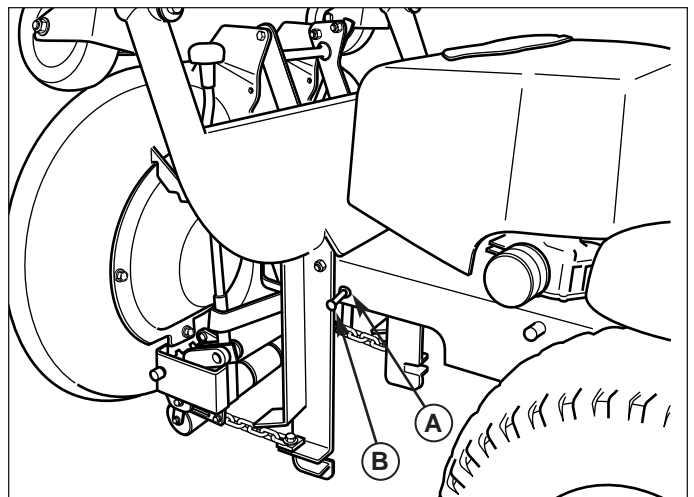

Figure 7. Mower Deck Access
5. Pivot the mower deck out from under the frame and hold it in place (see Figure 7).
6. Insert the pins and clips (B, Figure 7) through the safety holes (A) in the frame just behind the pivot hinge.
1. Hold the mower deck in position and remove the clevis pins (B, Figure 7) from the safety holes (A).